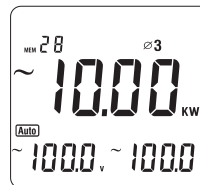

Figure 11
- After the sum up the current power measurement value of the second phase, then press **SELECT** again to choose the third phase  $\varnothing 3$ , as figure 11.